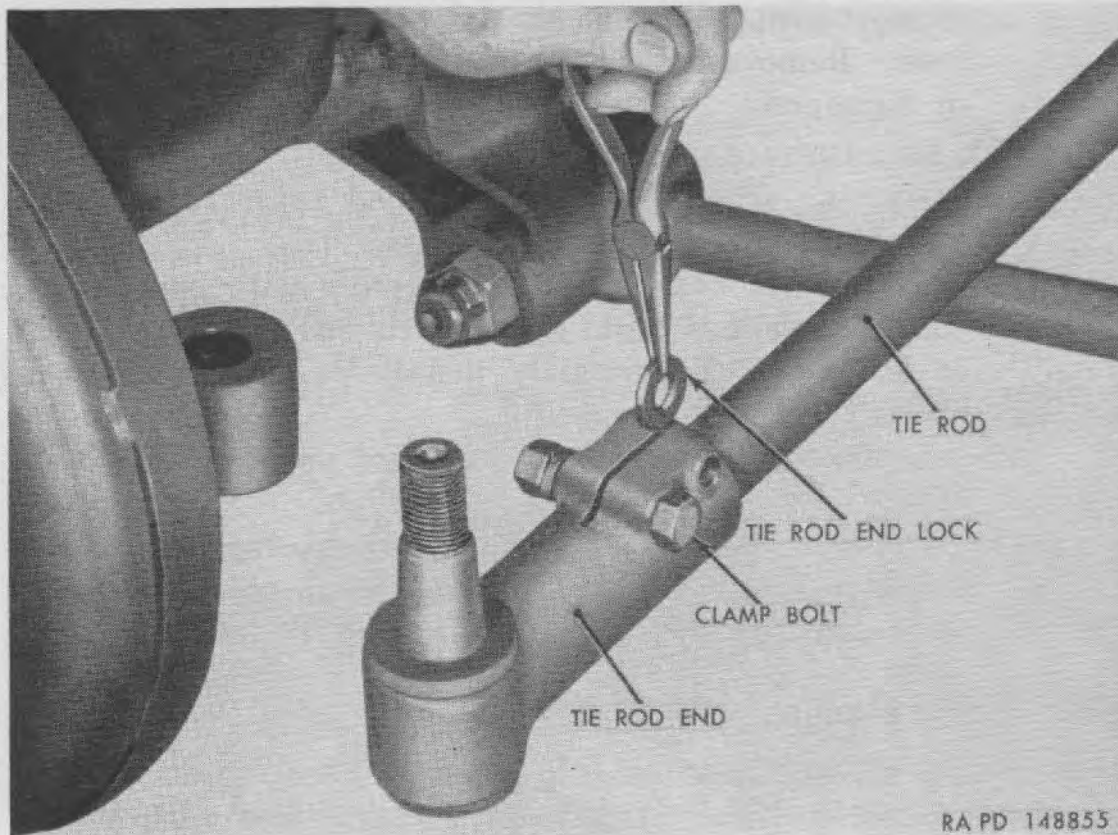

Figure 115. *Installing tie rod end lock.*
- (2) *Adjust tie rod.* Loosen tie rod end clamp bolt nuts at each end of tie rod. Remove inner clamp bolt and tie-rod-in lock (fig. 115) at tie rod left end. Screw tie rod ends onto or off of tie rod as required to obtain correct toe-in.
- (3) *Check adjustment.* After adjusting tie rod ends, temporarily install ends on steering knuckle supports. Measure toe-in as instructed in *a* above, and readjust if necessary until measurement is correct.
- (4) *Install tie rod.* When adjustment is correct reinstall tie rod ends permanently to steering knuckle support. Install lock in tie rod left end (fig. 115), making certain that lock is seated in keyway in tie rod. Aline lock with bolt hole in tie rod end; then install clamp bolt and nut. Tighten two clamp bolt nuts at each tie rod end.
- (1) *Position vehicle.* Place vehicle on a level surface and apply parking brake. Place a jack under front axle and raise enough to take weight of vehicle off front wheels.
- (2) *Remove tie rod.* Loosen two tie rod end clamp bolt nuts at each end of tie rod, also remove inner clamp bolt and lock (fig. 115) at tie rod left end. Remove tie-rod-end-tapered-pin nut at each end of tie rod. Tap steering-knuckle-support arm a sharp blow with hammer as downward pressure is applied to tie rod end with a pinch bar. Move each tie rod end down and at same time twist forward until free from steering-knuckle-support arm. Remove tie rod end when both ends are free. Remove and discard rubber seals if deteriorated or damaged.